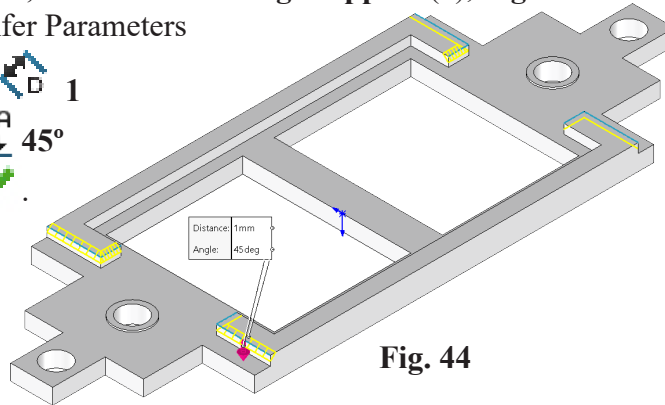

Fig. 44
click **inside, rear and front edge support (8)**, **Fig. 44**